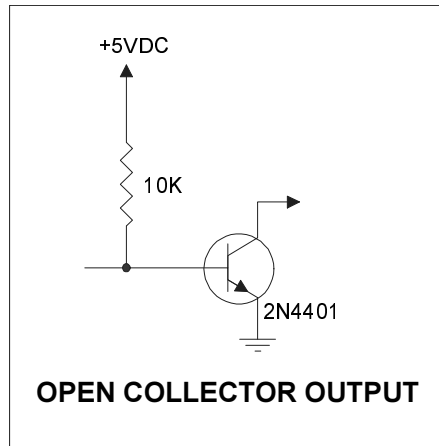

Figure 10 Data Out Internal Circuit Configuration
- The data out internal circuit configuration is as shown in Figure 10 .